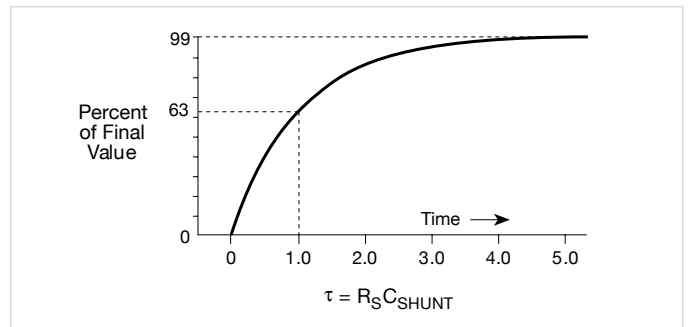

Figure 7. Exponential Response of Stepped Voltage Across RC Circuit
**Figure 7** shows the exponential response of a step voltage into an RC circuit. After one time constant ( $\tau = RC$ ), the voltage rises to within 63% of final value.